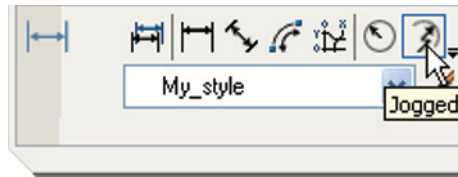

Fig. 6.19 The **Jogged** tool icon in the **Dimensions** control panel
2. Call the **Jogged** tool, either with a *left-click* on its tool icon in the **Dimensions** control panel (Fig. 6.19), or with a *click* on **Jogged** in the **Dimension** toolbar, or by *entering jog* at the command line. The command line shows: